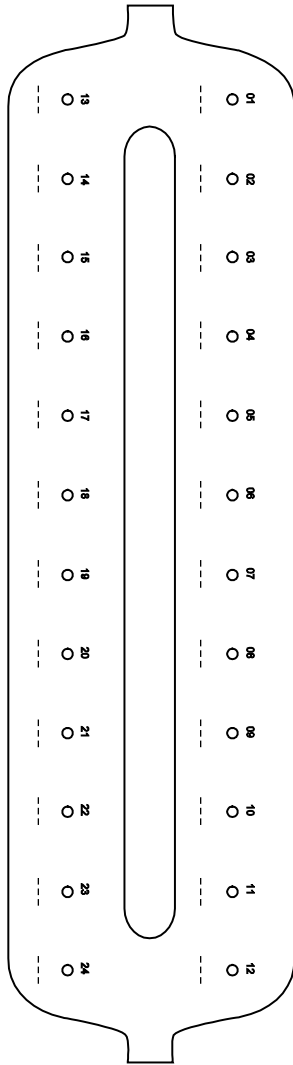

Figure 2. Labeling scheme for Lysis Tubes (LT), Elution Tubes (ET) and QIAamp MinElute columns for use on the QIAvac 24 Plus vacuum system.
2. VacConnector (VC)
We recommend labeling the Lysis Tubes (LT), Elution Tubes (ET), and the QIAamp MinElute columns for use on the QIAvac 24 Plus vacuum system according to the scheme in Figure 2 to avoid the mix-up of samples. This figure can be photocopied and labeled with the names of the samples.